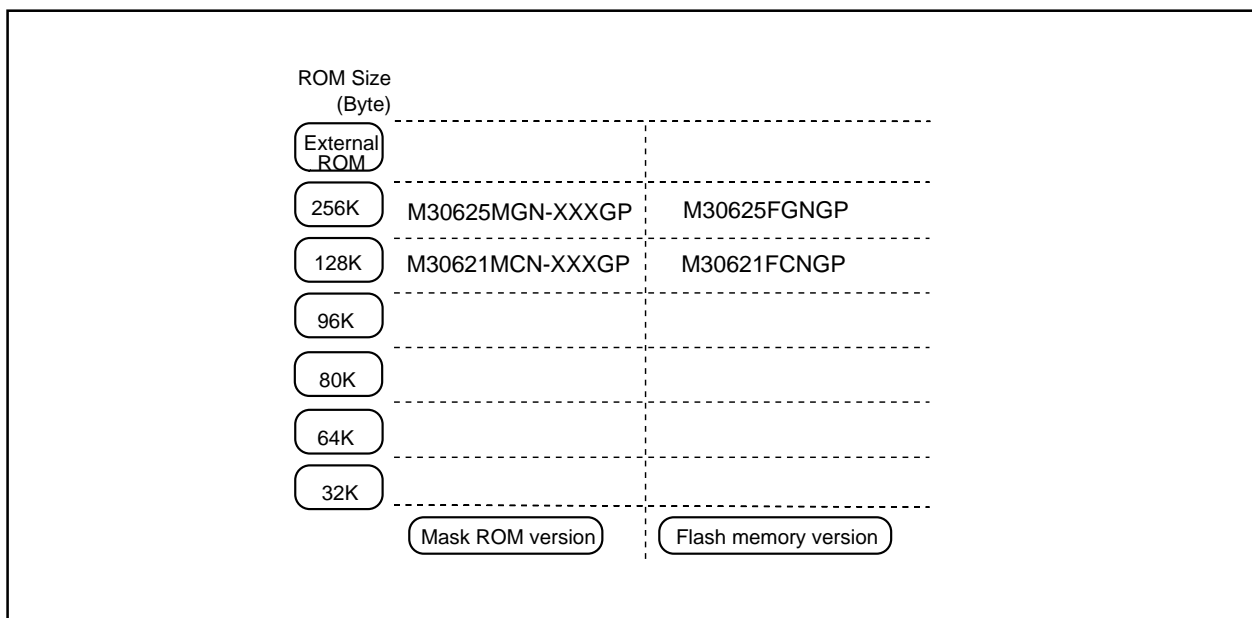

Figure 1.1.3. ROM expansion
- Memory capacity ROM (See Figure 1.1.3. ROM Expansion)